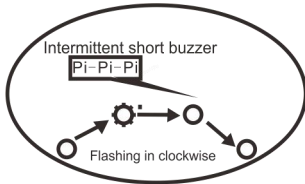
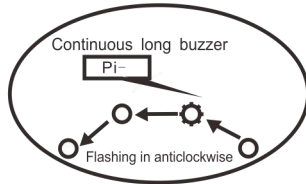

Figure3 Positive phase sequence
Figure4 Reverse phase sequence
6.1.4.After power up, if the four phase sequence indicators light up turn on clockwise, and the instrument make intermittent short chirps, then the clamped phase line is positive phase sequence L1-L2-L3 (U-V-W) (figure 3).If the four phase sequence indicator light up turn on in the counterclockwise, and the instrument make a continuous long sound, then the clamped phase line is in the reverse phase sequence L3-L2-L1. (W-V-U) (Figure 4).